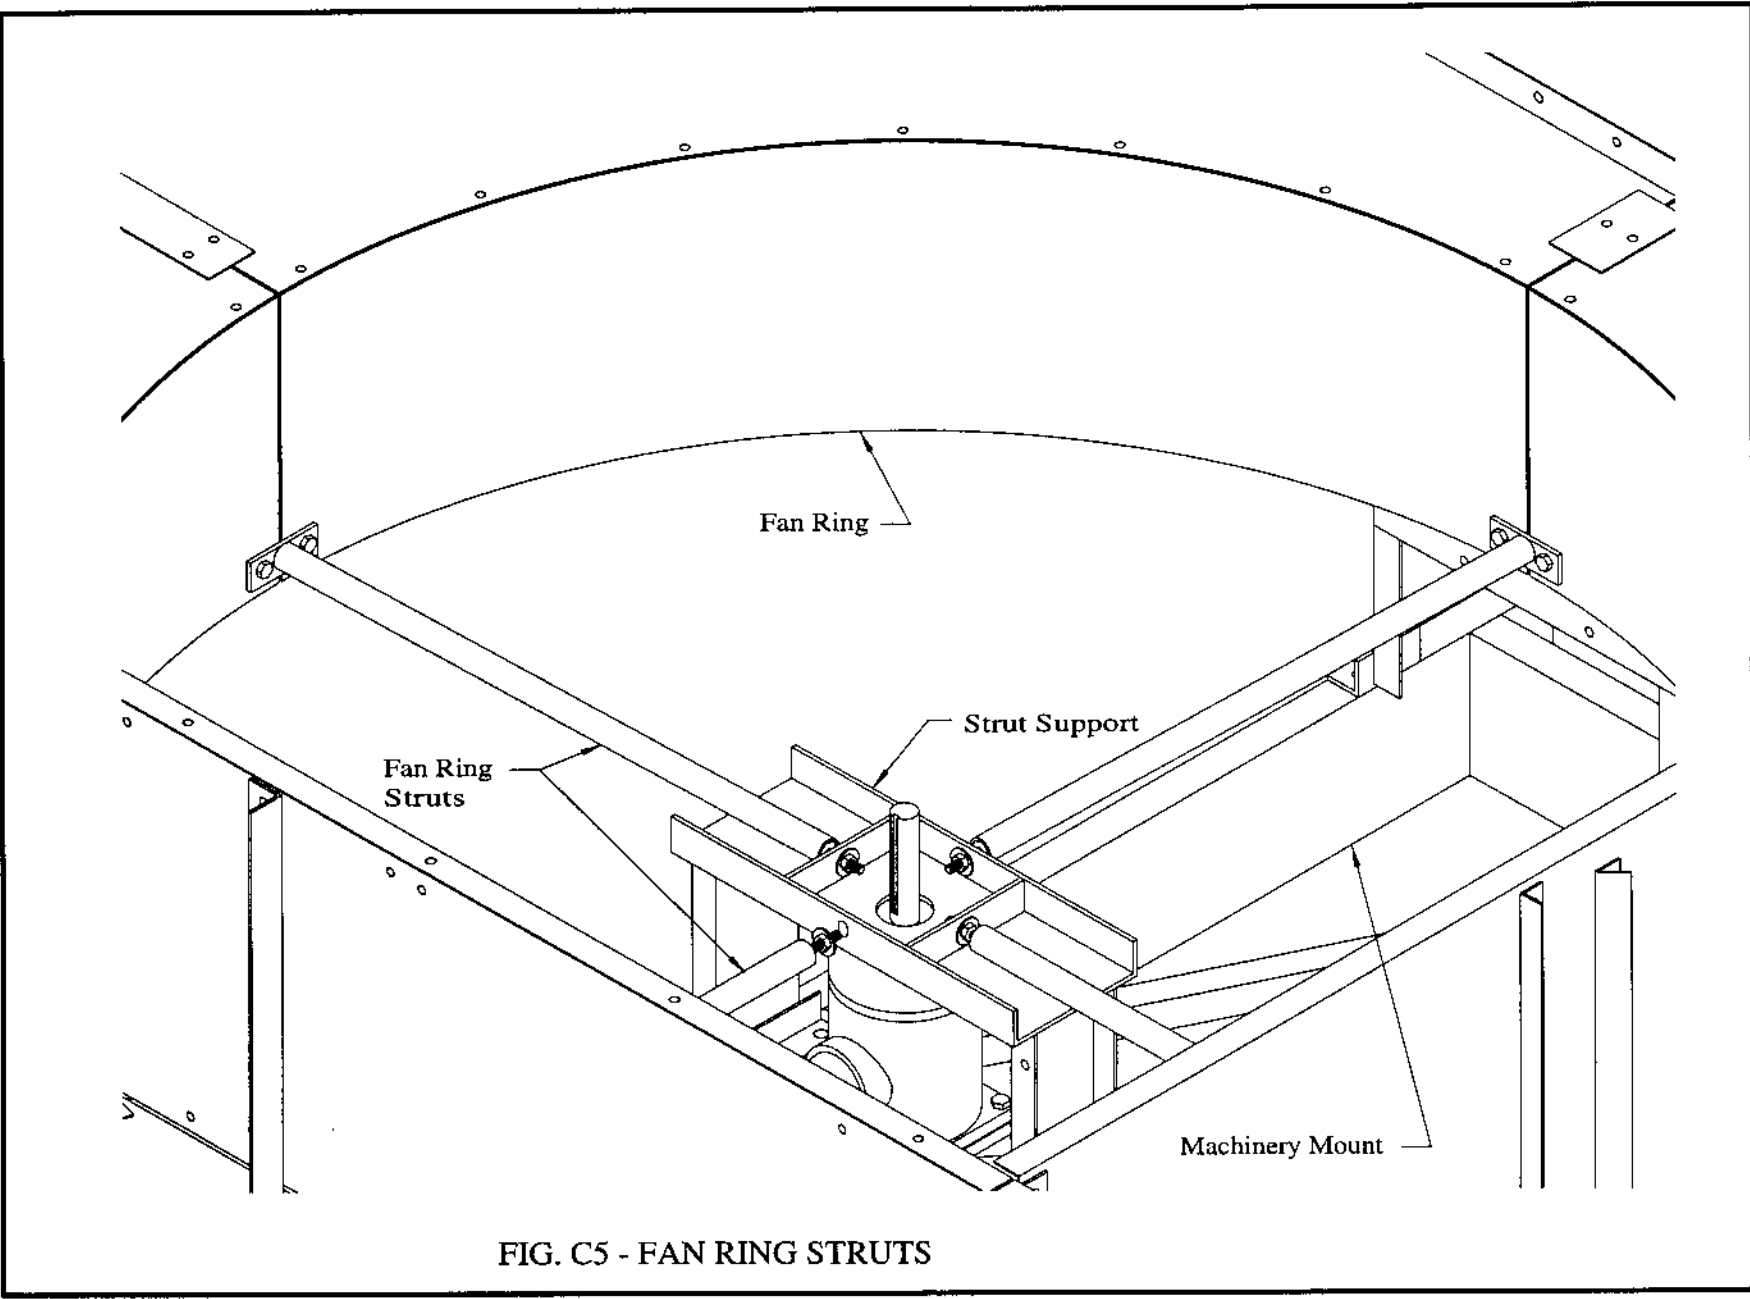

FIG. C5 - FAN RING STRUTS
6. Install fan ring struts. See Fig. C5.